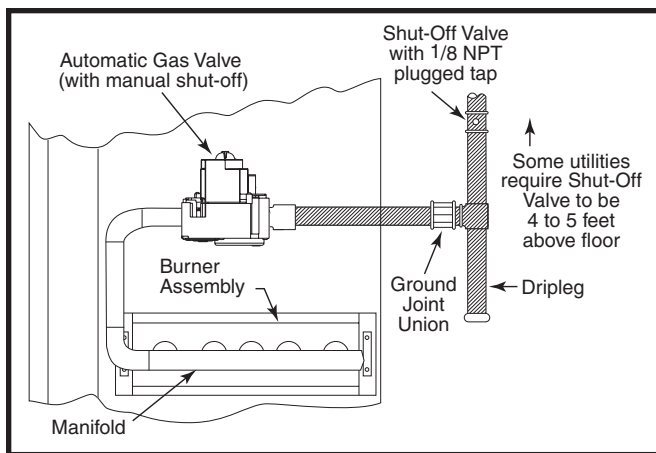

Figure 6. Typical Gas Hookup - Right Side Entry
additional requirements regarding placement of the manual main gas shut-off. See Figure 6 \(page 16\).
- A drip leg should be installed in the vertical pipe run to the unit. See Figure 6.
This unit only has right side gas entry. When connecting the gas, provide clearance between the gas supply line and the entry hole in the unit's casing to avoid unwanted noise and/or damage to the unit. A typical gas service hookup is shown in Figure 6.